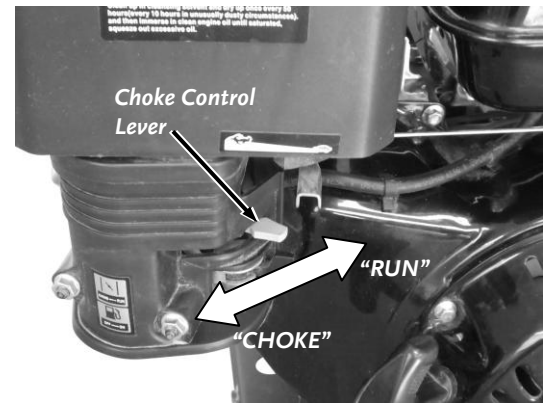

Figure 15
2. Move the Choke Control Lever to the "CHOKE" position if the engine is cold (**Figure 15**). Leave it in the RUN position if the engine is already warm.
6. When the Choke is on, the Engine will soon begin to run rough. Adjust the Choke to the right until the engine runs smoother (**Figure 15**). Continue this process until the engine runs well with the Choke Lever fully in the run position.